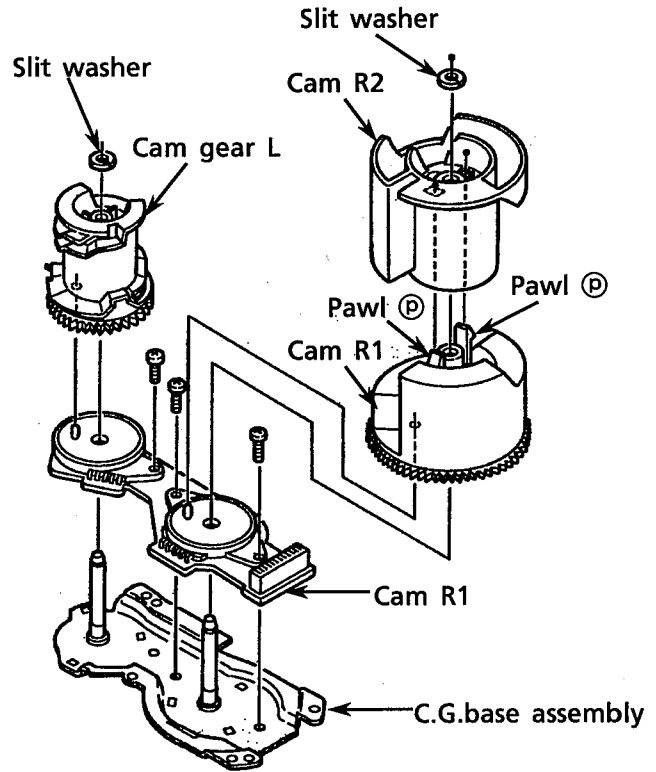

Fig. 27
(See Fig. 27.)
(12) Removal of C.G base ass'y
Remove 3 screws ① securing the C.G. base ass'y. (See Fig. 27 and 28.)